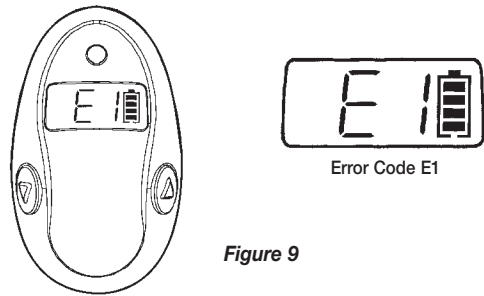

Figure 9
- In an Error State the LCD will display an error code (see Figure 9).
In the event of a malfunction of the device, the LCD will show an error code (e.g. “E1”) in place of the curing time indicator (Figure 9).